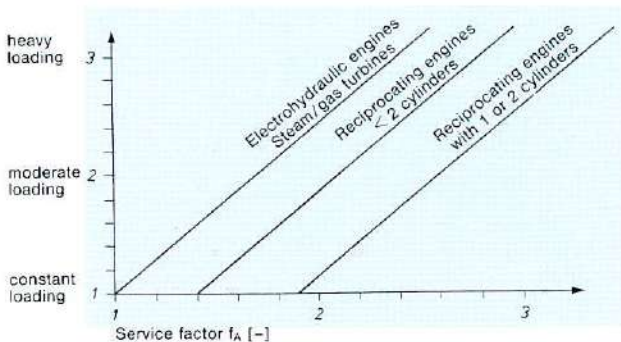

Fig. 15
- $f_A$  = Service factor according to loading [-], fig. 15